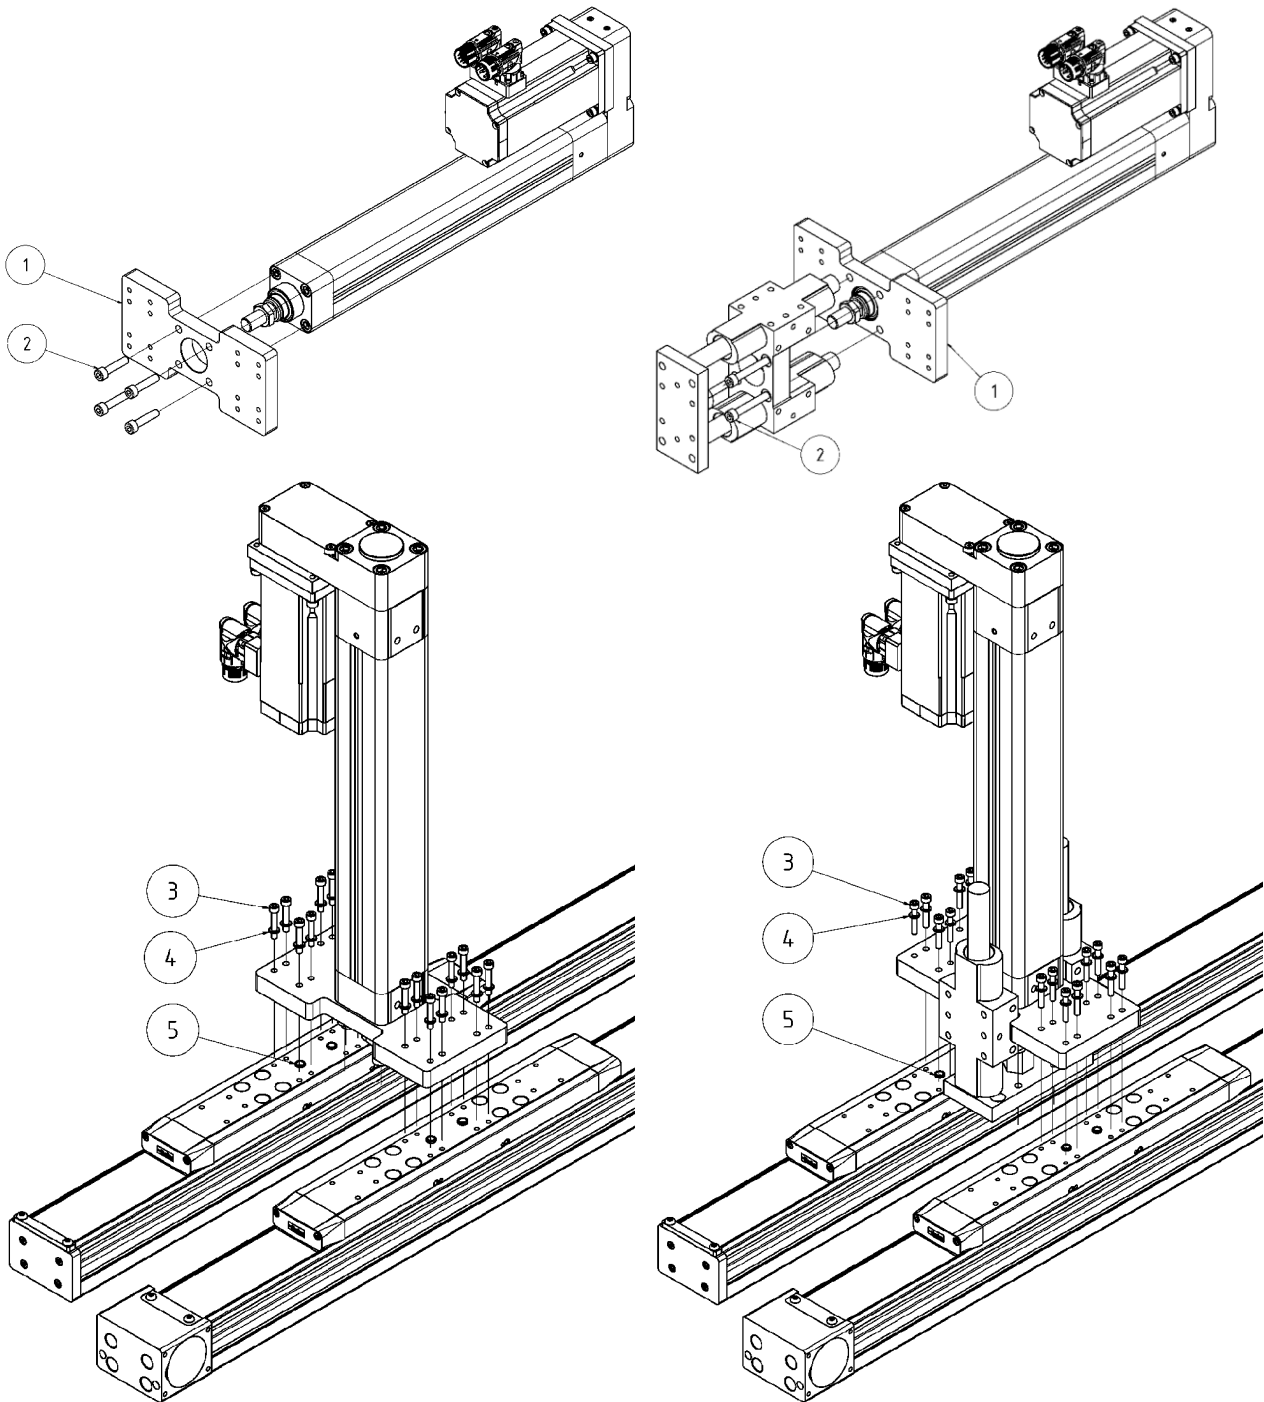

Figure 7: Assembly of ETH032 / 050 to cross beam
- ◆ Remove centering sleeves on the carriage of the linear actuator (please refer to Figure 7: Pos. 5).
- ◆ Slide the cross beam (see Figure 7: Pos. 1) onto the centering collar of the ETH/ETT cylinder.
- ◆ Fix the ETH/ETT cylinder crosswise with the screws supplied (see Figure 7: Pos. 2) and the required tightening torque (see Table 7).
- ◆ Align the crosswise to the carriage of the double axis and fasten it with the screws supplied (see Figure 7: Pos. 3) and the required tightening torque (see Table 7). All bores of the cross beam must be used for bolting to the carriage profile.
Tightening torque ETH/ETT032 (Figure 7, Pos.2)
Tightening torque ETH/ETT050 (Figure 7, Pos.2)
Tightening torque of cross beam (Figure 7, Pos.3)